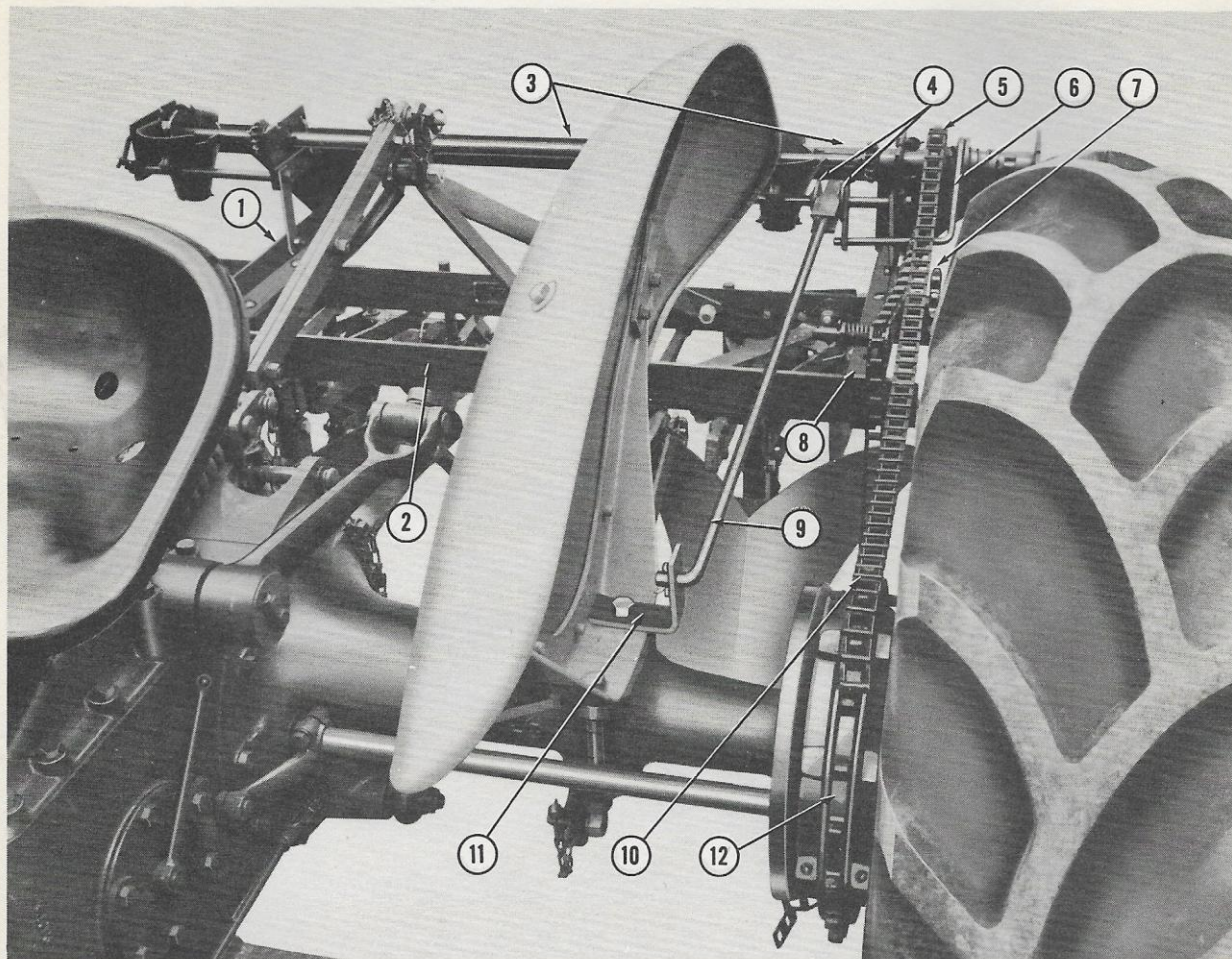
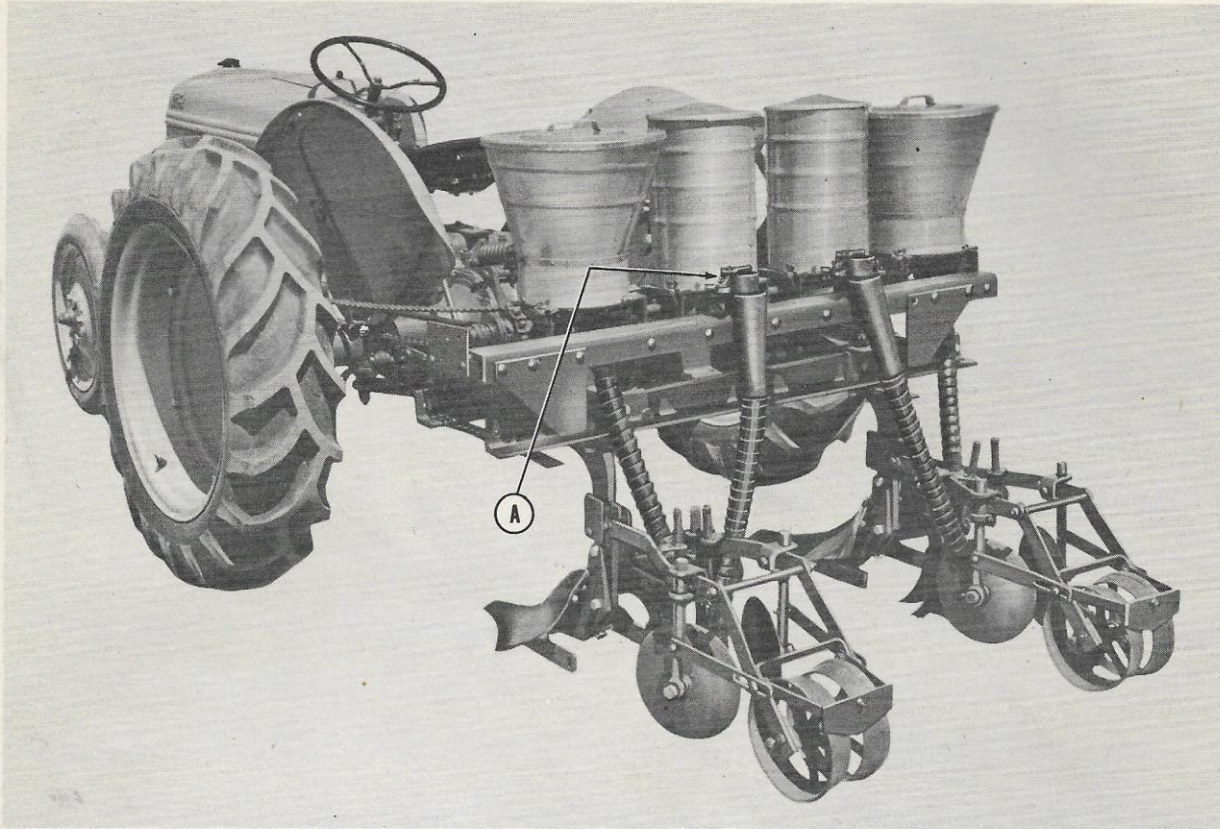

Figure 22
Figure 24
b. Place the planter main frame (3), Figure 22, on top of the middlebuster frame so the forward end of each support angle (1) and (8) rests on the front angle (2) of the middlebuster frame and the clutch
c. Replace the lower clamp bars under the middlebuster frame angles and directly below the support angles (1) and (8), Figure 22. Secure with the long bolts and nuts.
8. Place the drive chain (10) on the clutch sprocket (5), Figure 22, and run the chain forward over the drive sprocket (12) on the tractor brake drum.
- b. Link ends of the chain together. Be sure slack side of the chain is over the clutch shift bar (6), Figure 22.
- c. Position the chain idler (7), Figure 22, forward and under the slack side of the chain as shown in Figure 24.
9. Insert the tapered end of the clutch throw-out rod (9) between the two large washers (4), Figure 22, on the left hand hopper horizontal support.
- a. Insert the forward end of the throwout rod (9) in the hole on the bracket (11) as shown in Figure 22, and secure with the cotter pin.
Fertilizer Hoppers: To control the flow of fertilizer when the fertilizer attachment is used on the Kelly Planter, loosen the wing nut (A), Figure 24, on the fertilizer hopper discharge gate. Set the gate at the desired opening and secure with the wing nut.